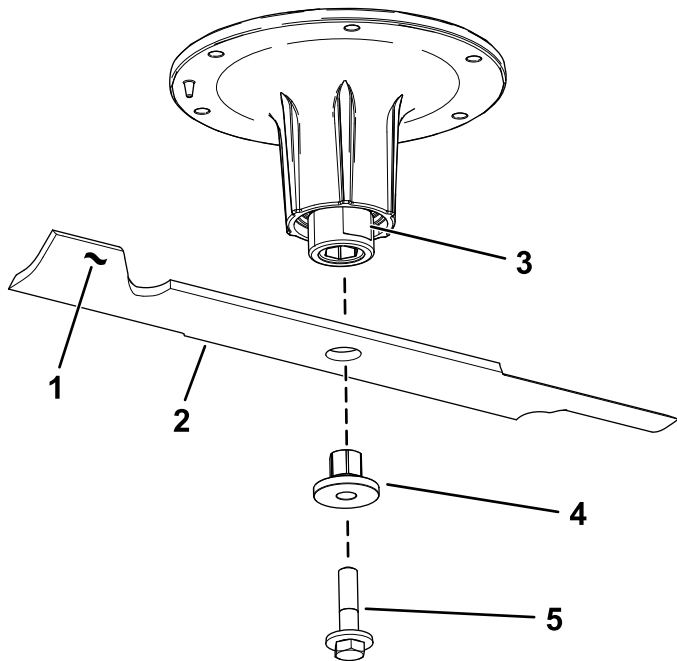

Figure 76
2. Remove the blade bolt, bushing, and blade from the spindle shaft (Figure 76).